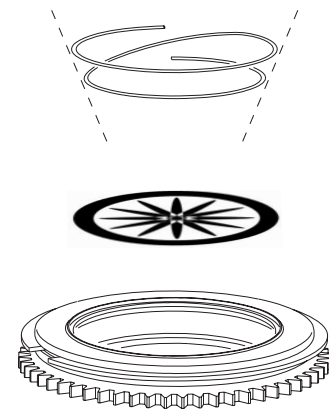
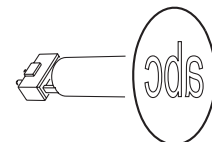

Figure 22: Rotating gobo holder
Figure 23. Correct gobo orientation
Correct gobo orientation is critical. Read the guidelines in Figure 23 carefully before installing a gobo.
5. Insert the new gobo in the holder with the side that must face towards the lamp facing upwards, towards the spring (see Figure 22 and Figure 23).
6. Insert the spring with the narrow end against the gobo, as shown in Figure 22. To identify the narrow end, press the spring flat: the narrow end is on the inside. Push the end of the spring in under the lip of the holder.
The orientations shown in Figure 23 are correct in most cases, but consult your Martin dealer or gobo supplier if you are in any doubt about the orientation of a specific gobo type.